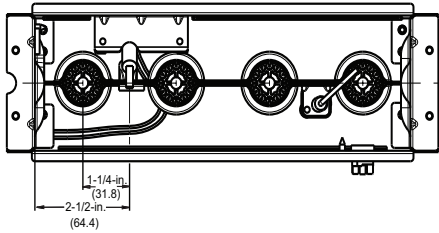
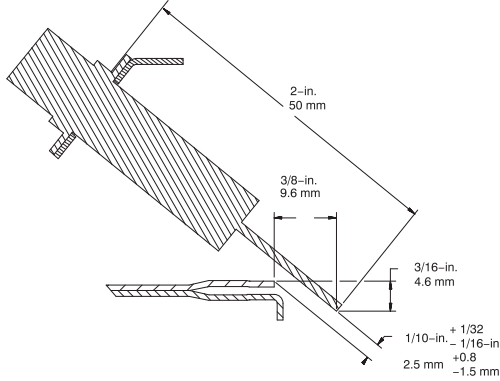

Fig. 7 – Igniter Position - Back View
Fig. 8 – Igniter Position - Side View
4. Verify igniter to burner alignment. See Fig. 7 & Fig. 8.